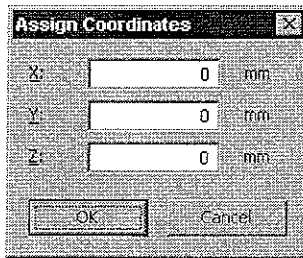

Figure 4.16: Dialog Assign Coordinates
1. Click an alignment point with the right mouse button and select Point with free coordinates in the pop-up menu. The dialog Assign Coordinates appears (refer also to figure 4.16).